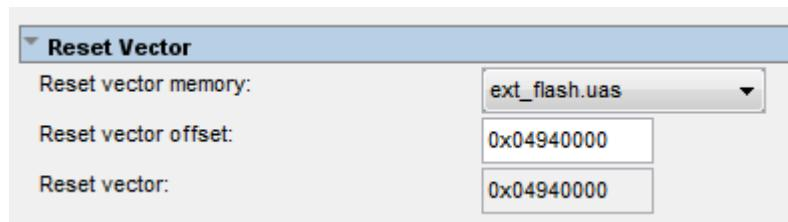

Figure 4-4 Reset Vector Settings for NIOS II Processor
2. In NIOS II processor options, select FLASH as reset vector memory and specify 0x04940000 as reset vector, as shown in **Figure 4-4**.